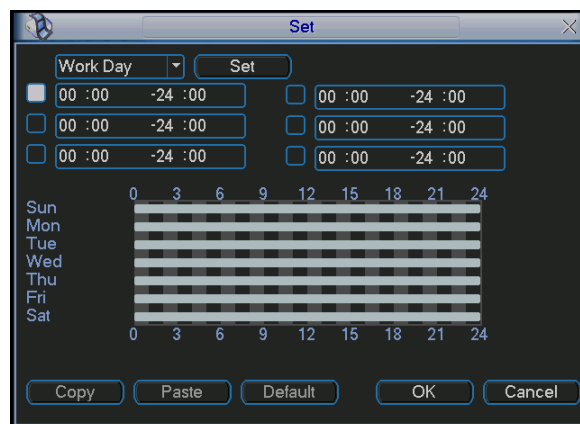
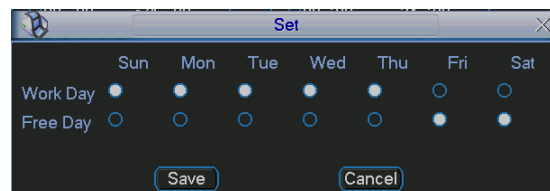

Figure 4-20
Figure 4-21
- Period: Click set button, you can see an interface is shown as in Figure 4-20. Here you can set for business day and non-business day. In Figure 4-20, click set button, you can see an interface is shown as in Figure 4-21. Here you can set your own setup for business day and non-business day.